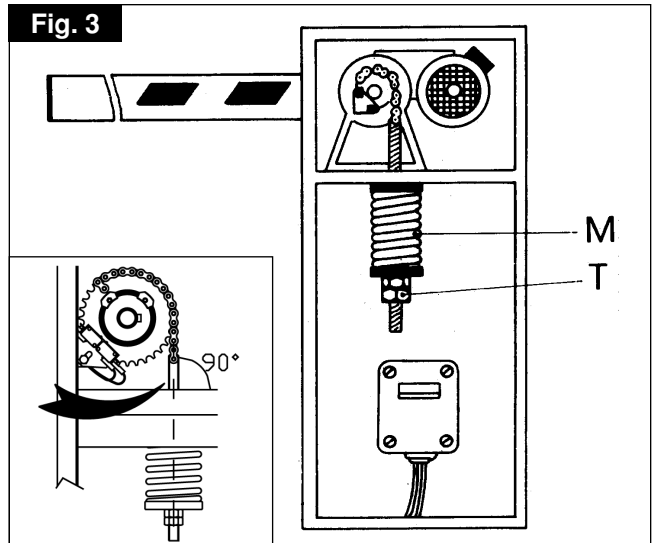

Fig. 5
- b) Loosen the dowel G (see Fig. 5)